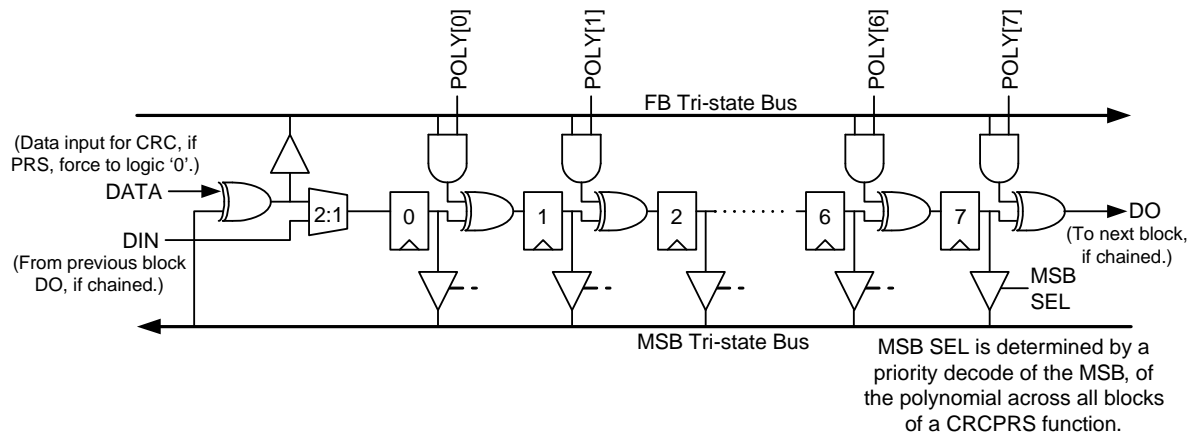

Figure 17-4. CRCPRS LFSR Structure
A Cyclic Redundancy Check/Pseudo Random Sequence (CRCPRS) function consists of a polynomial register, a **Linear Feedback Shift Register (LFSR)**, and a seed register. (See Figure 17-4 on page 338.) When the CRCPRS block is disabled and a **seed value** is written into DR2, the seed value is also loaded into DR0. When the CRCPRS is enabled, and synchronous clock and data are applied to the inputs, a CRC is computed on the **serial** data input stream. When the data input is forced to '0', then the block functions as a pseudo random sequencer (PRS) generator with the output data generated at the clock rate. The most significant bit (MSb) of the CRCPRS function is the primary output.
The LSFR (Linear Feedback Shift register) structure, as shown in Figure 17-4, is implemented as a modular **shift** register generator. The least significant block in the chain inputs the MSb and XORs it with the DATA input, in the case of CRC computation. For PRS computation, the DATA input is forced to logic 0 (by input selection); and therefore, the MSb bus is directly connected to the FB bus. In the case of a chained block, the data input (DIN) comes directly from the data output (DO) of the LFSR in the previous block. The MSb selection, derived from the priority decode of the polynomial, enables one of the tri-state drivers to drive the MSb bus.